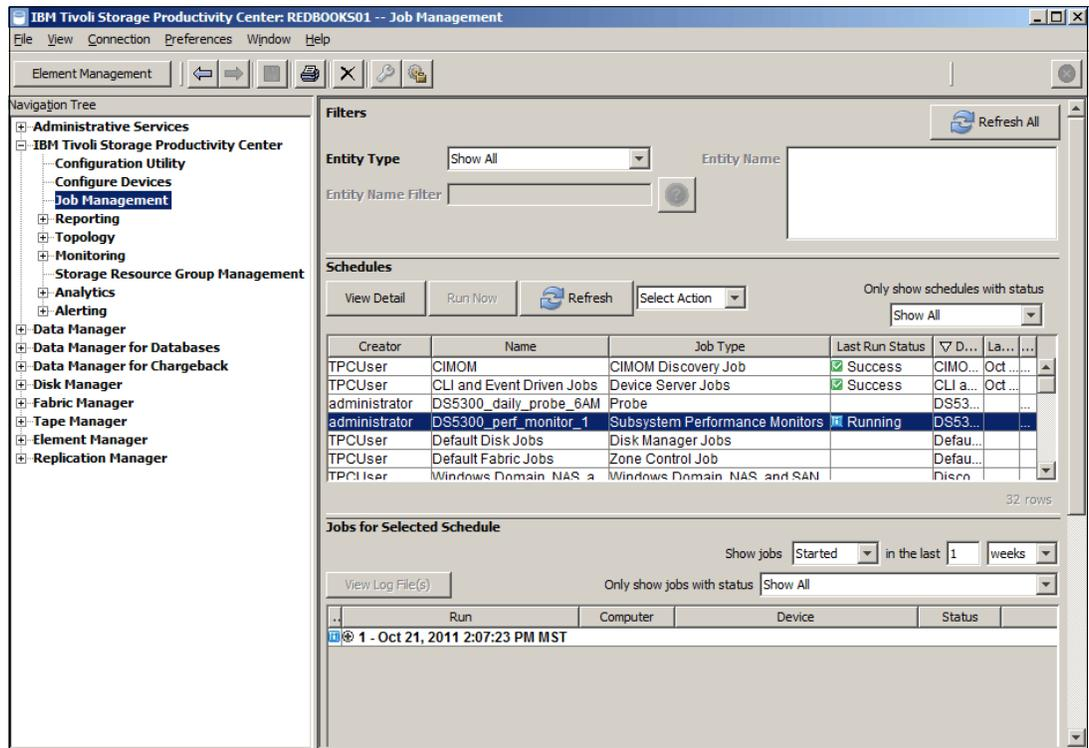

Figure 9-35 Verify Performance Monitor job
- Your Performance Monitor job is submitted now. To verify the job status, expand **IBM Tivoli Storage Productivity Center** → **Job Management** or click **Yes** directly on confirmation dialog box that pops up after the job is saved, as shown in Figure 9-35.